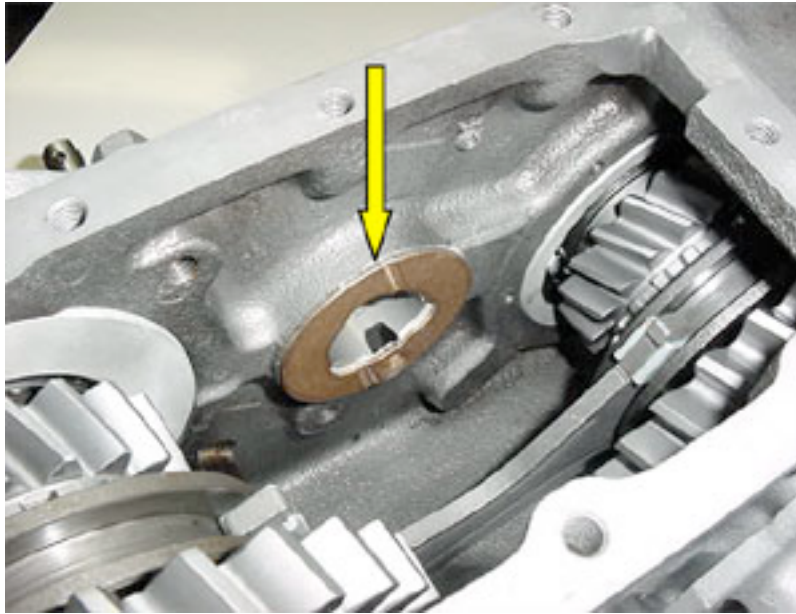

FIG: 20
19) Place the second thrust washer into the case as shown. Again coat both sides with grease. The washer should stay in place easily (Fig.20).